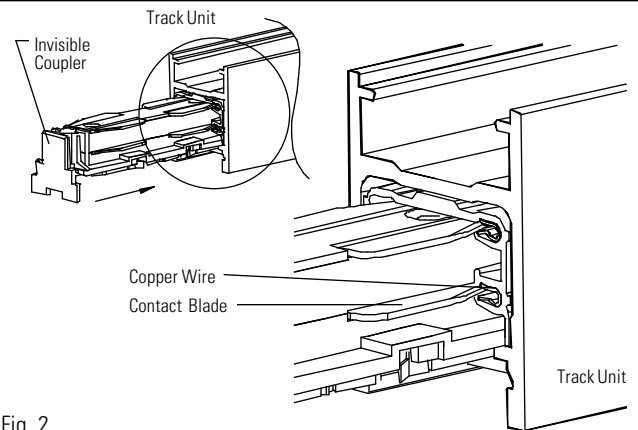
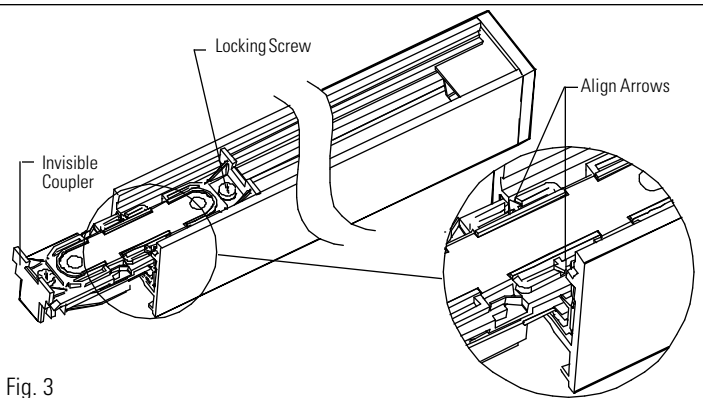
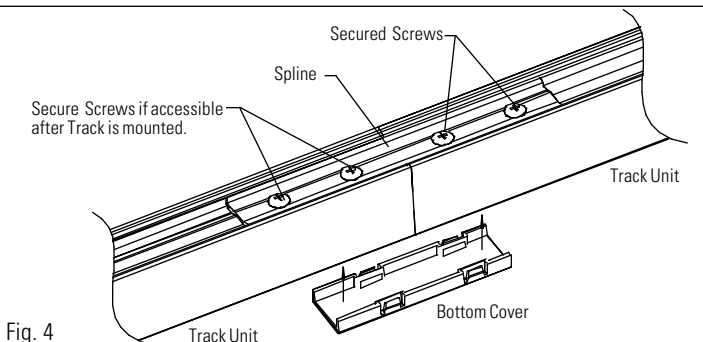

Fig. 2
Fig. 3
Fig. 4
2. Push Coupler into track until the arrows line up with the track edge. Ensure that the contact blades are aligning with the copper wires in the track during assembly. (Fig 2 & Fig 3)
3. Tighten the Locking Screw, (Fig 3)
5. Insert the assembled track and coupler into the mating track. Ensure that the contact blades are aligning with the copper wires in the track (Fig 2). Push together until there are no gaps between the track unit sections. (Fig 4)
7. Tighten locking screws. Note: if there is access from above the track after it is mounted (ie. track stem installation) secure the spline to the mating track using the (2) additional screws. Do not use the additional two screws if there is no access. The track will have to be removed from the structure to remove the invisible coupler.